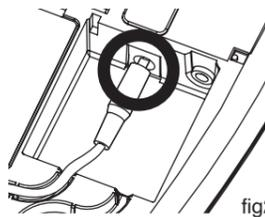

fig2
- Plug the power cable in to the strobe. Route the wire through the wire guide (fig 2).